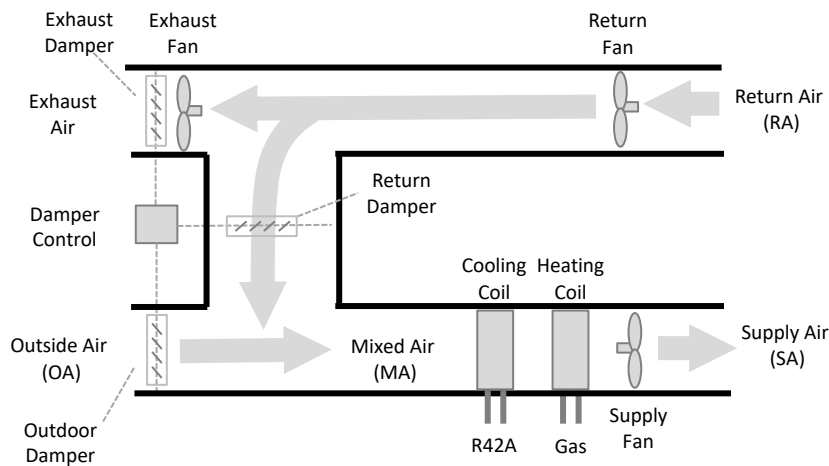

Figure 2-3 Single-duct Air-handling Unit
In a **Single-Zone Constant Air Volume System (SZCAV)** is shown in Figure 2-3. In the cooling mode, to meet ventilation requirements, the fan operates continuously and the compressor cycles on and off to satisfy the space cooling load. The fan and compressor operate at full capacity until the temperature drops to a set lower limit below the setpoint; then the compressor turns off. The compressor turns on again at full capacity once the space temperature increases to a set upper limit above the setpoint. The on/off nature of the constant volume unit causes the temperature to constantly fluctuate above and below the room setpoint temperature. In addition, the cycling produces wear on the compressor (AAON 2019). The **supply fan runs full speed all the time regardless of the load demand** and is not synchronized to the number of heating stages ② or cooling stages ①.